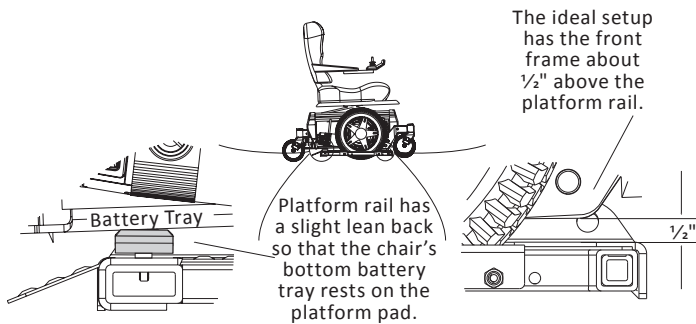

Figure 6-17
1. Position the power chair on the platform. Stop when the drive wheels are in the platform gaps. Raise the platform off the ground and inspect the power chair. **See Figure 6-17.**